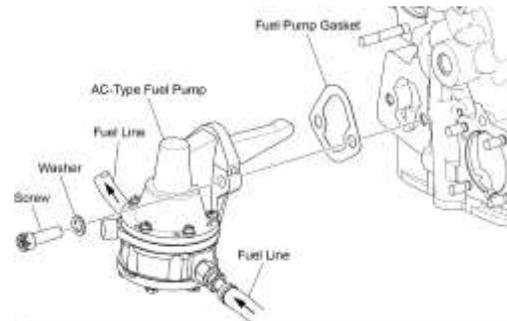

Figure 12
- (1) Put a fuel collection container under the fuel line connections at the AC-type fuel pump (Figure 12).
- (2) Apply a label and disconnect the fuel lines to the fuel pump.
- (3) Remove the two screws and washers from the fuel pump.
- (4) Remove the fuel pump and gasket from the accessory housing. Discard the gasket.
- (5) Remove the fuel collection container and dispose of the fuel in accordance with environmental regulations.
- (4) Install the fuel pump with a new gasket on the accessory housing as shown in Figure 12 with the two washers and two screws.
- (5) Torque the screws to 225 to 250 in.-lbs. (25 to 28 Nm).
- (6) Connect the fuel lines to the fuel pump. Torque the fuel fitting to 23 to 24 ft.-lb. (31 to 35 Nm). Make sure that the fuel lines are securely connected.